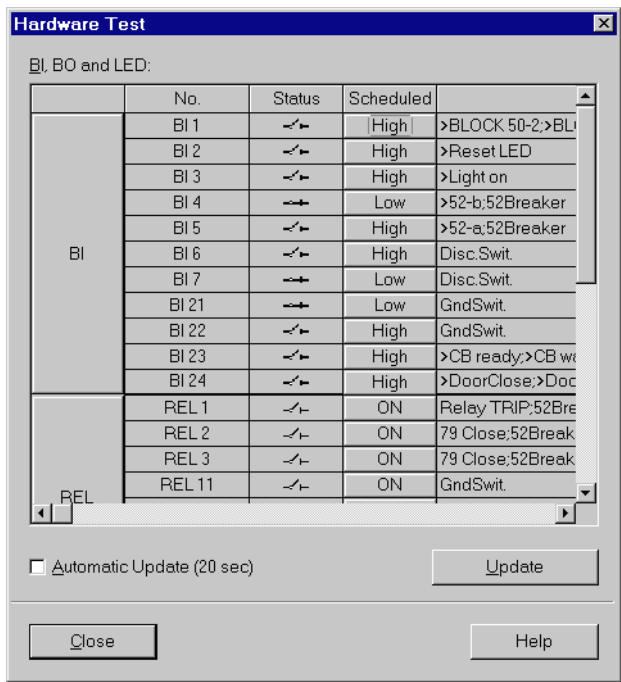

Figure 8-16 Dialog Box for Hardware Test
- ☐ Double-click in the list view on **Hardware Test**. The dialog box of the same name opens (see Figure 8-16).